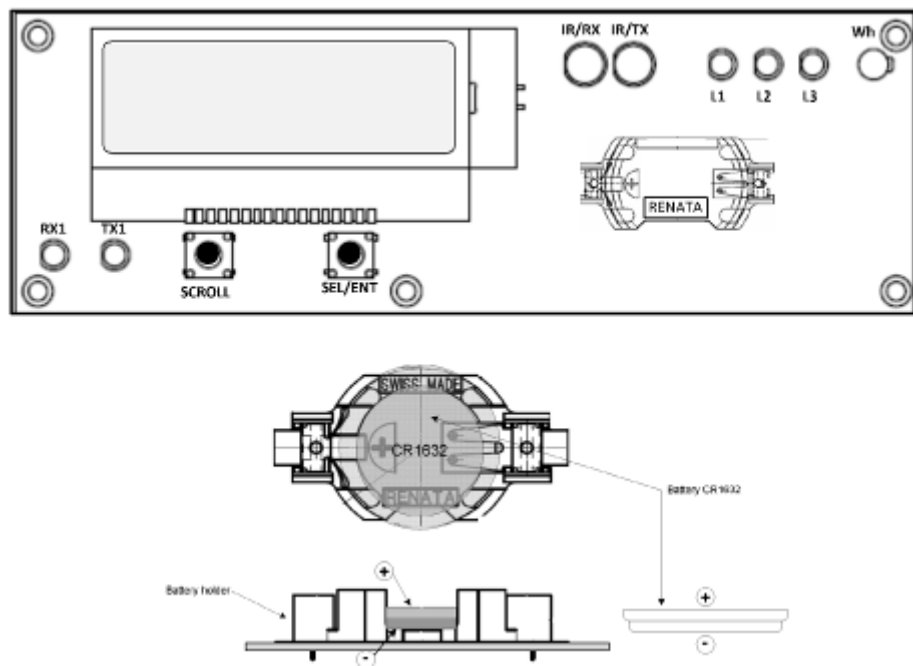

Figure 2-7 EM13X Series Battery Replacement
- 3) Place the new CR2032 battery into the battery holder while holding up the battery holder retractable tab in such a way that the (+) battery pole is toward the battery holder, as shown in Figure 2-7.